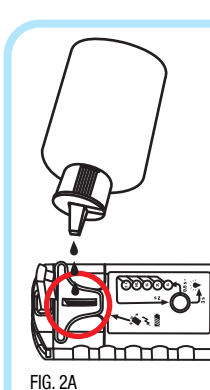

FIG. 2A
- C. Pour salt water from the salt water bottle into the reaction chamber until the chamber is nearly full of salt water. (FIG. 2A)